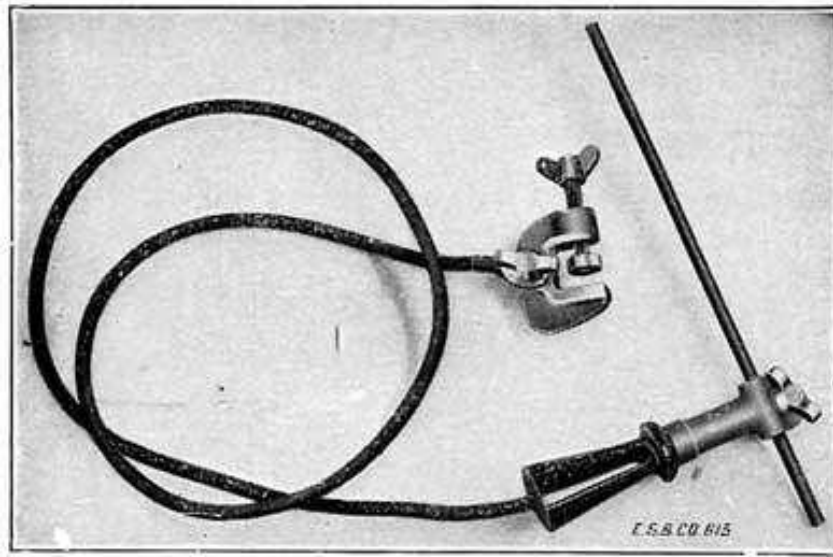

Fig. 80. Carbon Lead Burning Outfit
**8. Carbon Arc.** This is a very simple method, and requires only a spare 6 volt battery, a 1/4 inch carbon rod, carbon holder, cable, and clamp for attaching to battery. This outfit is shown in Fig. 80. It may be bought from the American Bureau of Engineering, Inc., Chicago, Ill. This outfit is intended to be used only when gas is not available, and not where considerable burning is to be done.